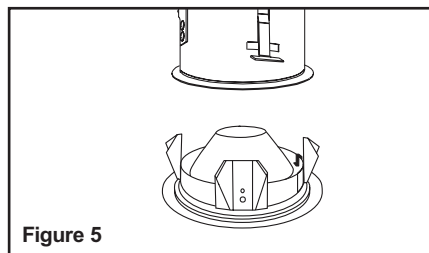

Figure 5
**Step 4.** Install trim using push-in springs provided (Fig. 5). Remove socket paint protector cover and install proper lamp (light bulb) as listed on housing label.